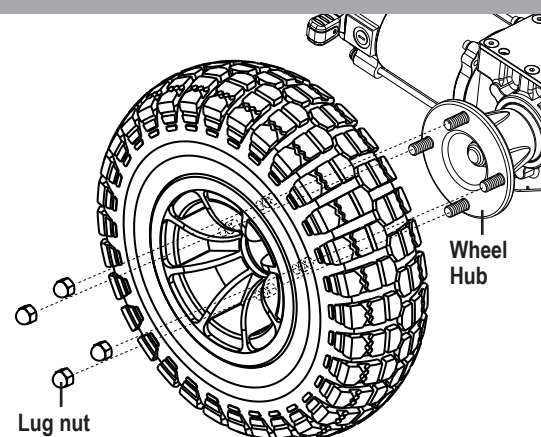

Figure 16. Drive Wheel
4. Remove the four (4) lug nuts from the wheel hub. **See figure 16.**